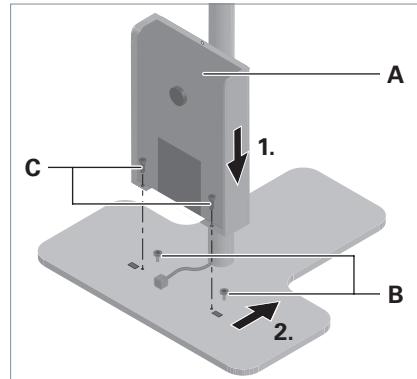

Fig. 2: Mounting the supply unit.
- ▶ Place the supply unit **A** on the screws **B** premounted to the base of the light, see Fig. 2.
- ▶ Slide the supply unit toward the column as far as it will go, see Fig. 2.
- ▶ Fasten the supply unit to the light base using the delivered screws **C**, see Fig. 2.